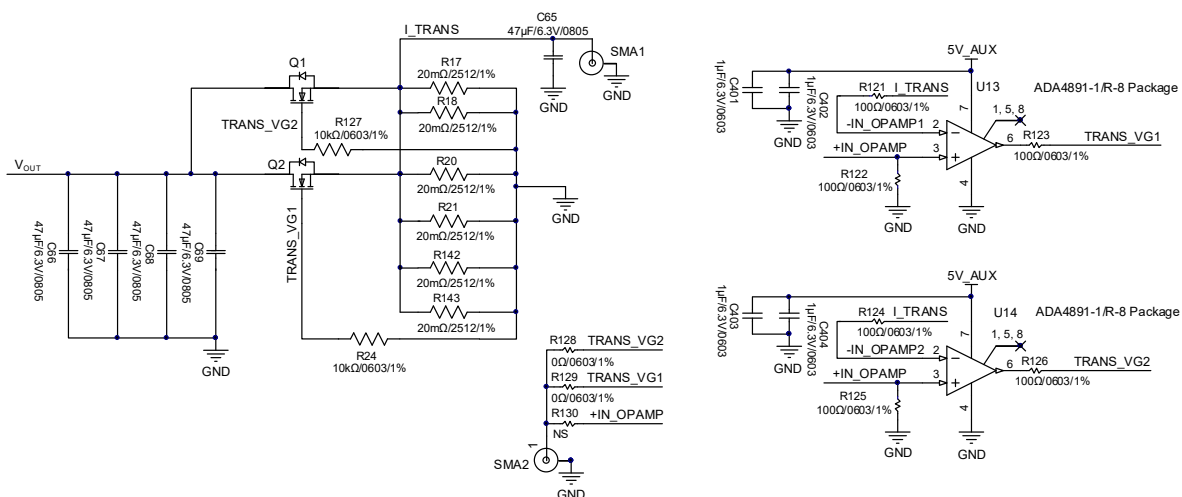

Figure 10: Schematic of Transient Circuit
2. The voltage on the transient resistor (R) determines the transient current. Measure the transient load voltage using the IO_TRANS terminal.
5. Due to the limited driving capacity of the signal generator, using the op amp can achieve a faster transient slew rate. The voltage on the resistor is equivalent to the op amp's positive input voltage (V_{IN}). Figure 10 shows a detailed schematic of the transient circuit.